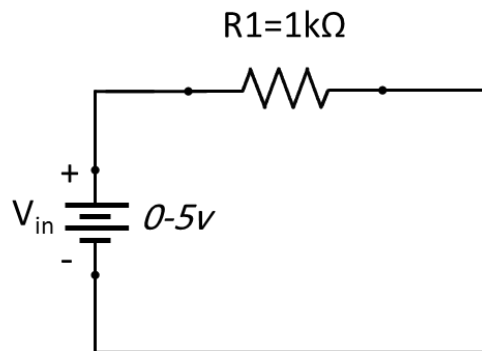

Figure 4
1. Connect the circuit as shown in Fig. 4